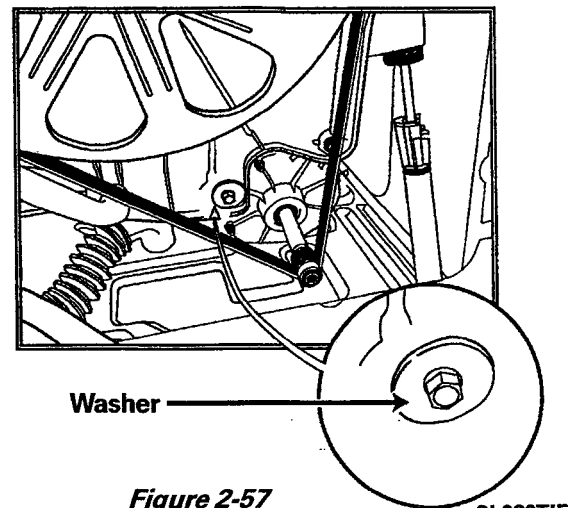

Figure 2-57
The drive belt has six (6) ribs which mate with the face of the motor pulley. The belt encircles the motor pulley and also the drive pulley of the spinner (*Figure 2-57*).